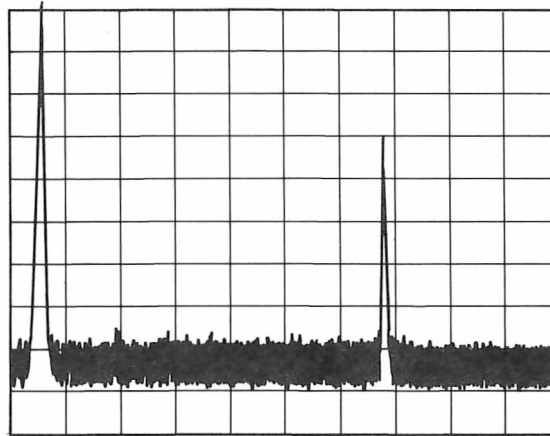

Figure 5-57. Squegging Displayed on Spectrum Analyzer
50. Using the STEP UP key on both the 8340A Under Test and the LO 8340A, step through Band 2 observing the spectrum analyzer display at each step. There may be responses due to mixing products. These will appear as low level signals. A squegging response will appear as a higher amplitude signal as shown in Figure 5-57. If squegging occurs, adjust A24R5 (X2C) slightly CCW to eliminate the squegging. Note, if the control is adjusted and there is no effect on the response, the response is probably a mixing product.